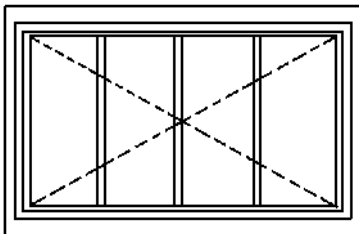

Figure 3
3. Diagonal measurements must be within 1/8" of being equal before fastening top of frame. Refer to Figure 3 . A frame out of square can result in door sag.
4. Check vertical and horizontal alignment with a level. Refer to Figure 3 .